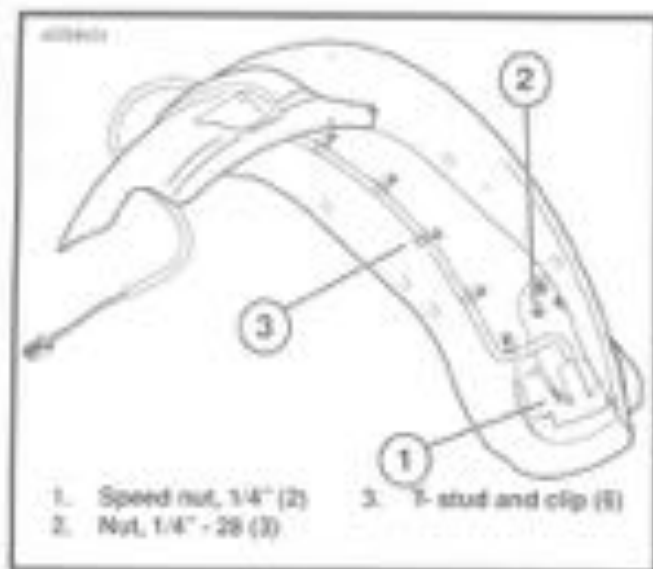

Figure 2-92. Tail Brake Lamp and License Plate Bracket Removal
- See Figure 2-92. Remove three 1/4"-28 nuts securing license plate bracket. Position assembly on new fender. Tighten screws to 6-8 lbs (8 Nm) torque.